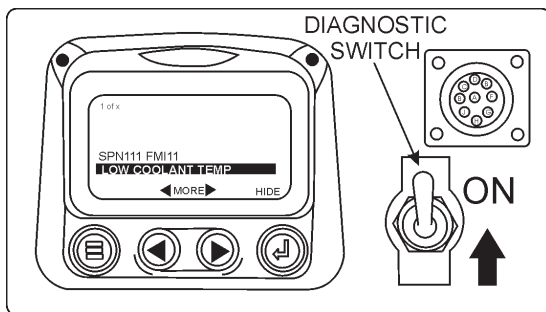

Figure 44. Active Fault Code Message
- Place the Diagnostic ON/OFF switch in the **ON** position. Verify that an Active Fault Code message is being displayed (Diagnostic Display Panel). The fault code message will continue to be displayed until the fault has been corrected. Figure 44 shown below is a typical example of an active fault code message (Low Radiator Coolant).